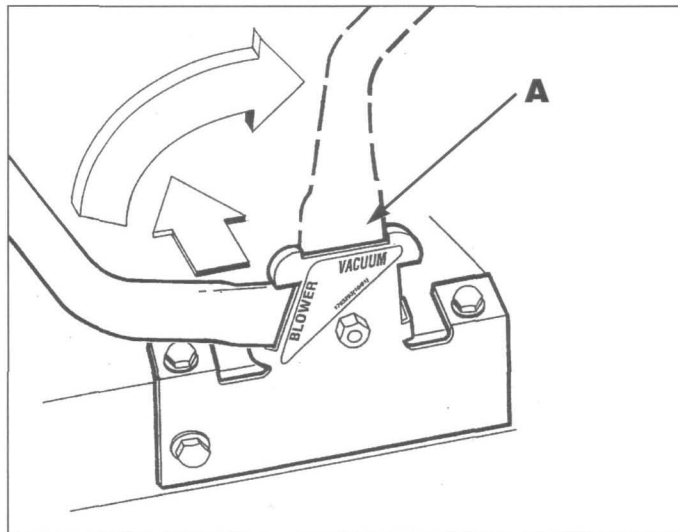

Figure 10: Adjust handlebar position to "vacuum."
C. Squeeze the handlebar ends, swing the handlebars over the machine toward the rear, and release the handlebars in the "vacuum" notches (**A**) as shown in Figure 10.